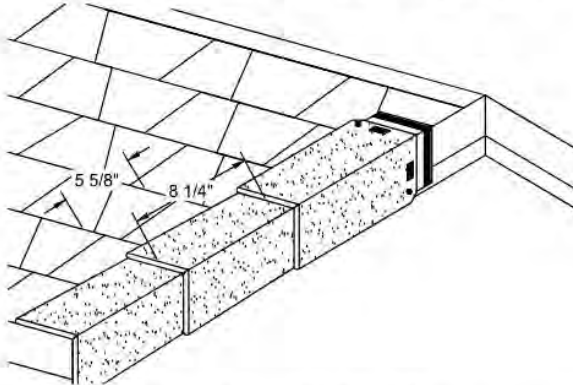

Figure 27 - Installation of EZ-Ridge™ Shingles on Rake Edges of the Roof
3. Note: Installation with exposed nails may affect the aesthetic appeal of EZ-Ridge™ shingles. (See Figure 27)